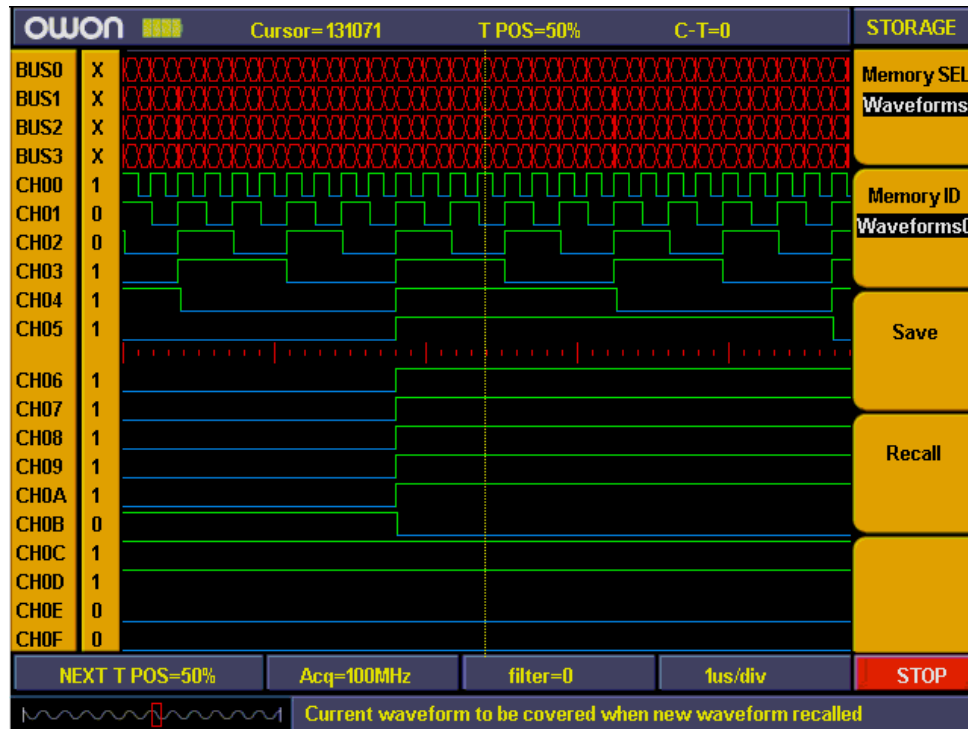

Fig.5-74: Waveform saving
8. Press "F4" to recall the memory waveform or settings (refer to Fig.5-74)